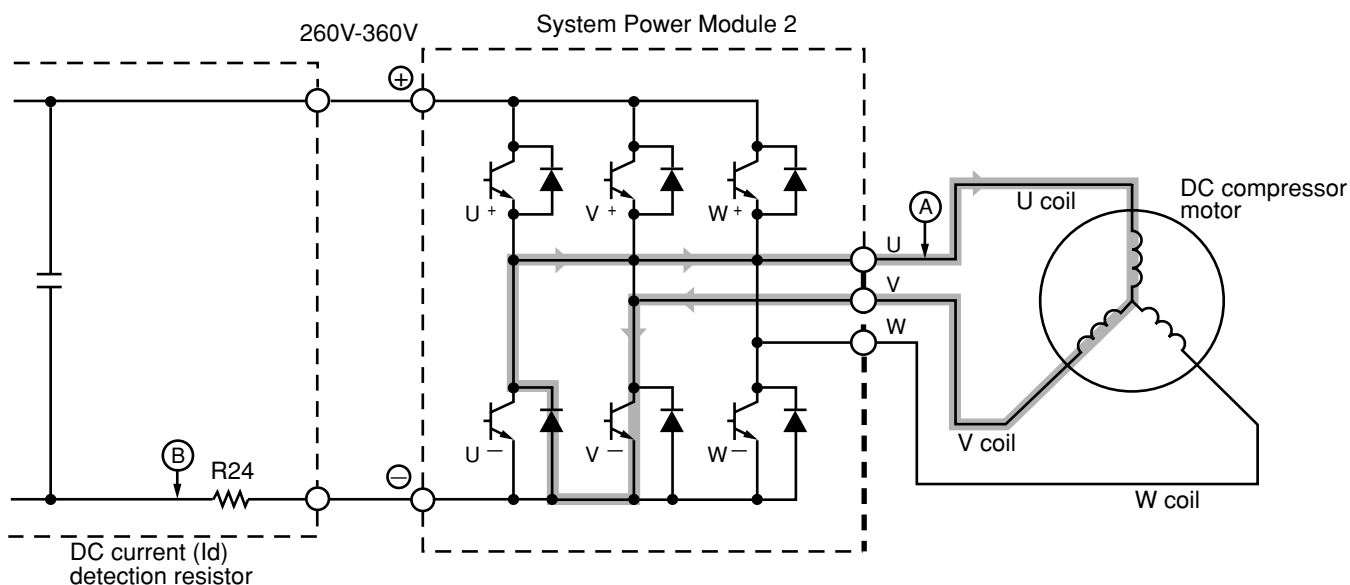

Fig. 3-4 Power module circuit (U^+ is ON, V^- is ON)
- (2) When U^+ transistor is OFF: (by inductance of motor coil) U coil $\rightarrow$ V coil $\rightarrow$ V^- transistor $\rightarrow$ Return diode $\rightarrow$ Point (A) (Fig. 3-4)